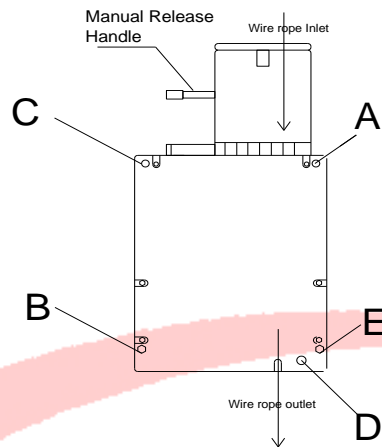

Figure 14 Hoist Installation
5.4.1.2 Installation of LTD6.3 : Anchor LTD6.3 hoist with safety pins at point A and B. (See Figure 14)